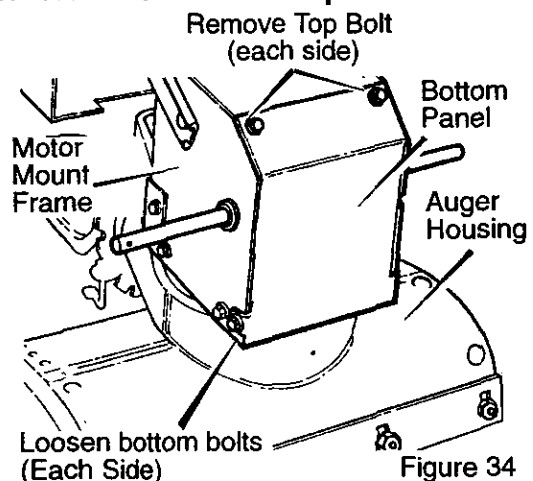

Figure 34
- Remove the **bolts** on each side of the **bottom panel**. See Figure 34.
6. Install the **bottom panel**. See Figure 34.
3. Remove the **top bolts** on each side of the **bottom panel**. See Figure 34.
18. Install the **bottom panel**. See Figure 34.